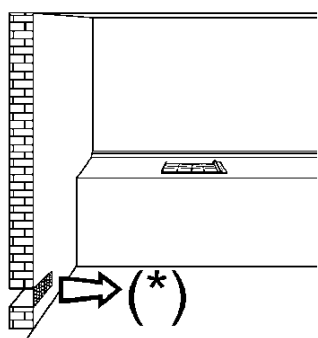
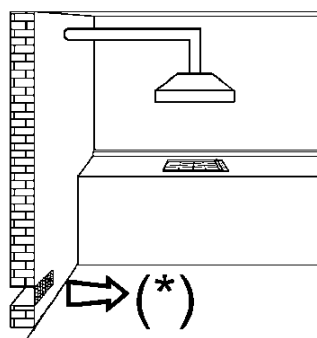
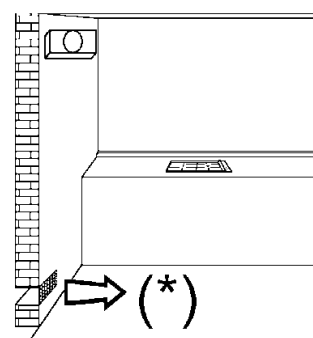

FIG. 3
FIG. 4
FIG. 5
- **use of a gas cooking appliance produces heat and moisture in the room in which it is installed. The room must therefore be well ventilated by keeping the natural air vents clear (see fig. 3) and by activating the mechanical aeration device (suction hood or electric fan fig. 4 and fig. 5).**